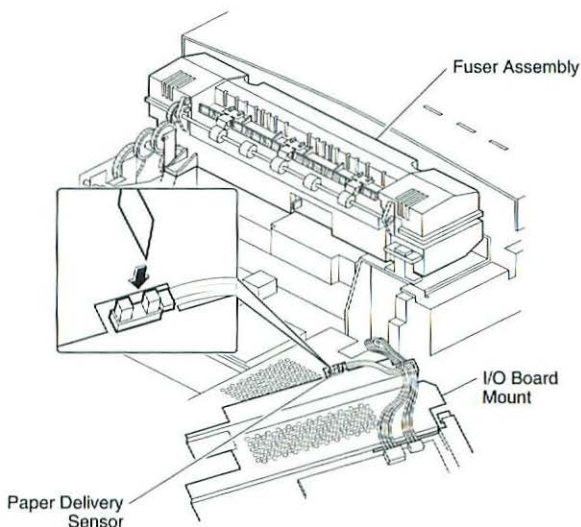

Figure 8 Actuating the Paper Delivery Sensor
2. Remove the I/O board mount and set it at an angle on top of the power supply, as shown in Figure 8.
3. Insert a folded piece of paper into the U of the paper delivery sensor (see Figure 8 inset) in order to manually actuate the sensor and put the printer in a ready state.